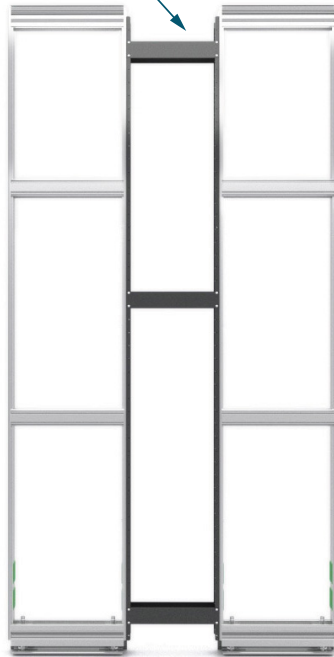

Figure 17
- A.** Position the **Spanning Plates (205639)** – QTY 3 minimum per side to the **Mechanical Chase Weldments (205746)** (Figure 17).